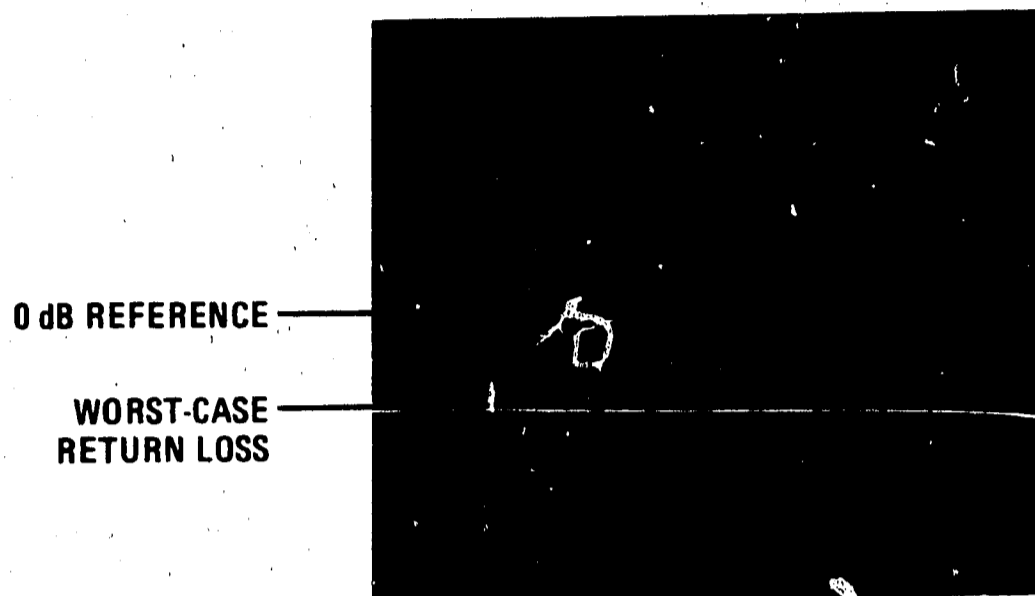

Figure 4-14. Port Return Loss (2 - 100 MHz)
- (1) Remove short and connect 8503B port R to Directional Bridge LOAD port with all other 8503B ports terminated.
- (2) Move 8505A Frequency Control MARKER 1 to worst-case return loss between 2 and 100 MHz as indicated on CRT (the point closest to calibration line as shown in Figure 4-14).